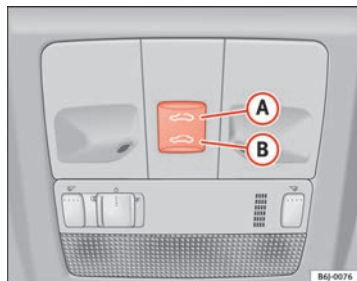

Fig. 52 Panoramic/tilting sunroof
- Press and hold button **(B)** ⇒ Fig. 52 ⇒ ⚠. The roof starts to close until the button is released.